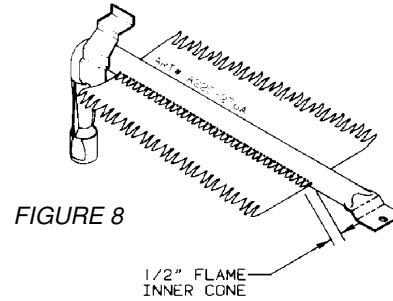

FIGURE 8
a. The approximate length of the flame of oven burner is a 1/2 inch distinct inner blue flame, figure 8.